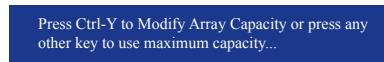

Figure 8
7. Then, the message in Figure 8 will appear. Press <Ctrl>+<Y> to set the capacity of the RAID array or press other keys to set the array to its maximum capacity.